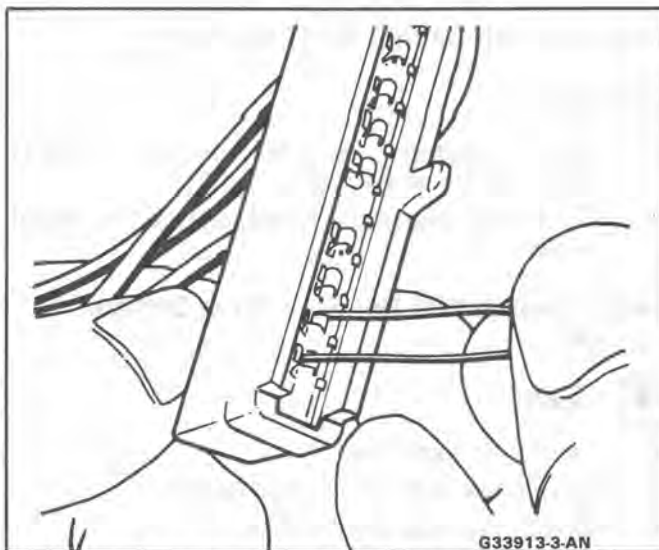

Fig. 1 Checking Reminder at Chassis Connector
**KEY REMINDER***Figs. 1 through 11***Reminder Continues To Operate With Key Out, But Stops When Driver's Door Is Closed** **Inspect**